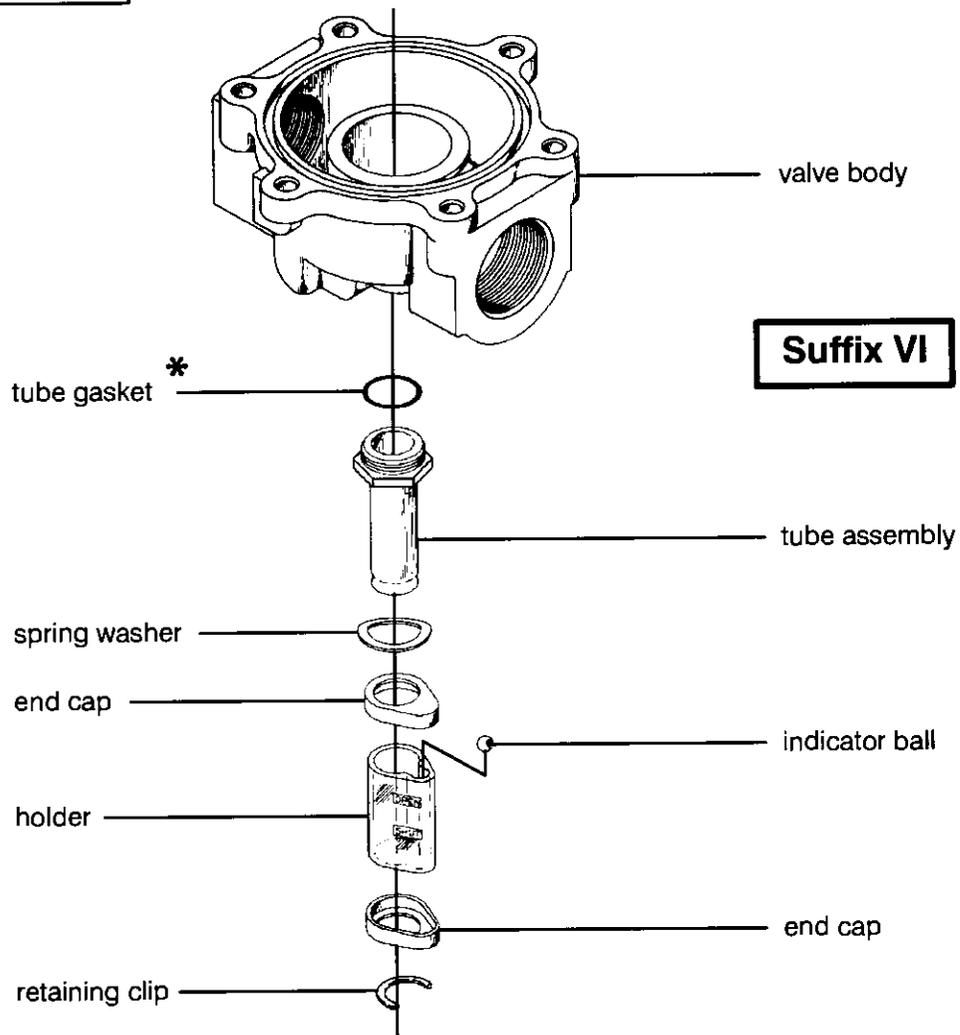

Figure 3. Visual position indicator (partial view).
Disassembly and Reassembly of (Suffix VI) Visual Only Position Indicator (Refer to Figure 3)
3. Reassemble in reverse order of disassembly paying careful attention to exploded view provided in Figure 3 for identification and placement of parts.